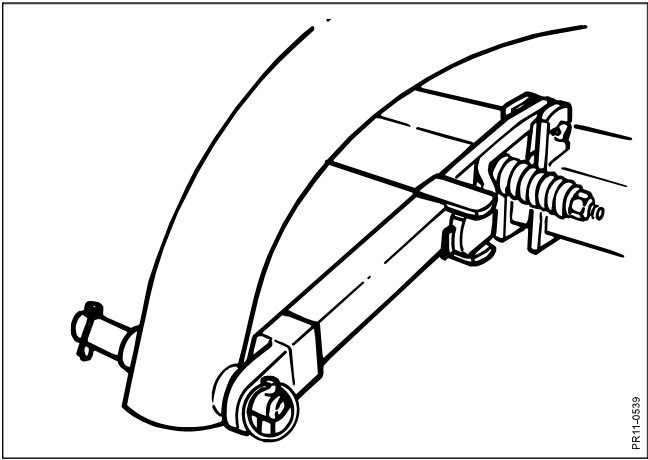

Fig. 3-8
- Fig. 3-8:** The machine is equipped with a safety release allowing the cutting unit to swivel backwards when the pressure from the front gets too high, e.g. if the machine collides with a tree, a pole, a large stone or the like.